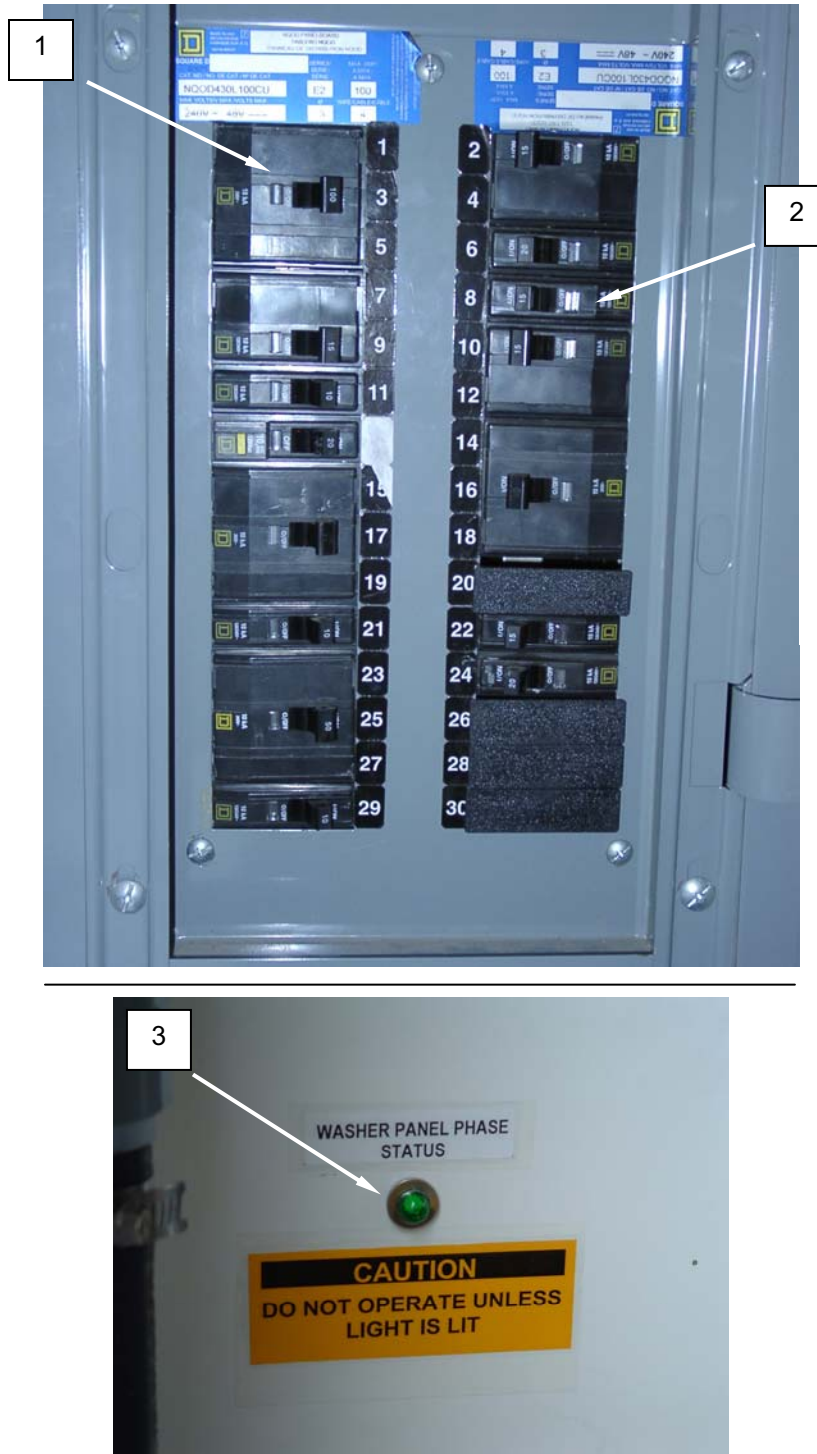

Figure 11. Check Phase Indicators.
20. Switch breaker No. 8 (Control Panel) (**Figure 11, Item 2**) to the ON position.
Observe the Phase Indicator light (**Figure 11, Item 3**). The indicator light should be illuminated. If not, switch breaker No. 8 (Control Panel) (**Figure 11, Item 2**) to the OFF position and immediately contact Facilities Support Section Power-Generation Personnel, Prime Power team, or Utilities team as necessary. A condition where the phase indicator is not illuminated indicates that the incoming power is not in proper phase and must be corrected before the CBL can be operated.
21. After verifying that the Phase Indicator light (**Figure 11, Item 3**) is illuminated, place each of the remaining breakers in the ON position. For a complete description of the function of each breaker, refer to WP 0004 00, "Controls and Indicators".